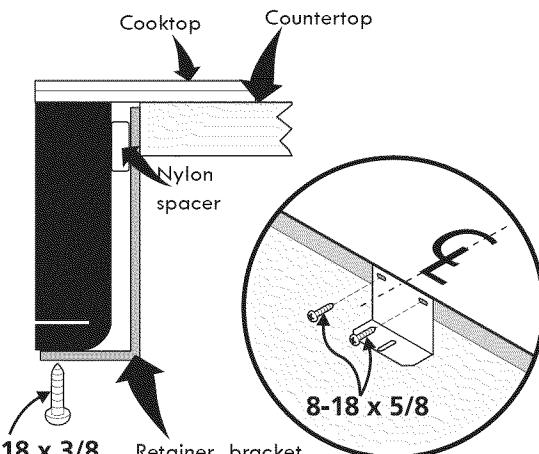

Figure 9
2. Install the retainer brackets (See Figure 9).
The retainer brackets **MUST** be installed, to meet local codes or, in their absence, with the National Electrical Code ANSI/NFPA No. 70—latest edition, or with CSA Standard C22.1, Canadian Electrical Code, Part 1 (see Figure 9).